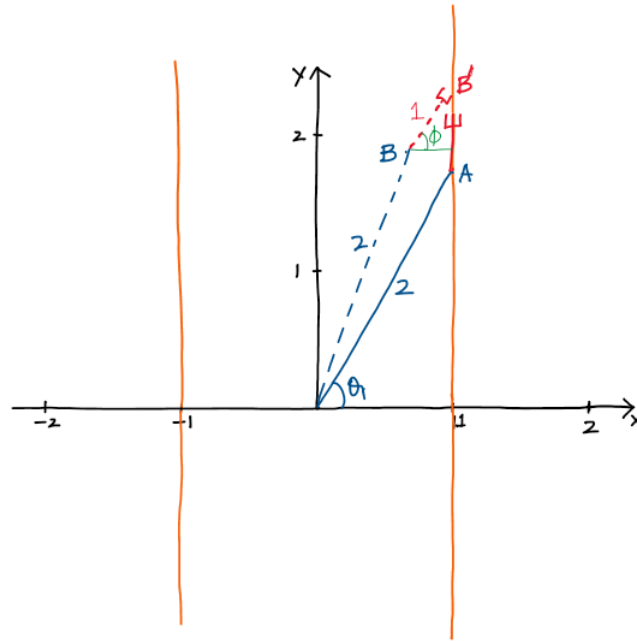

Figure 2: Motion of 2R manipulator constrained by barriers at $x = -1$ and $x = 1$
- (d) The free C -space is the subset of θ_1, θ_2 that results in the end-effector position between $x = -1$ and $x = 1$. We can see from Figure 2 that if the end-point of link 1 falls below point A in the figure, then the manipulator collides with the barrier on the right. From
To determine the limits of θ_2 , we can consider the manipulator drawn with dashed lines in Figure 2. Now considering the smaller triangle formed by BB' , the horizontal line, and the barrier line,